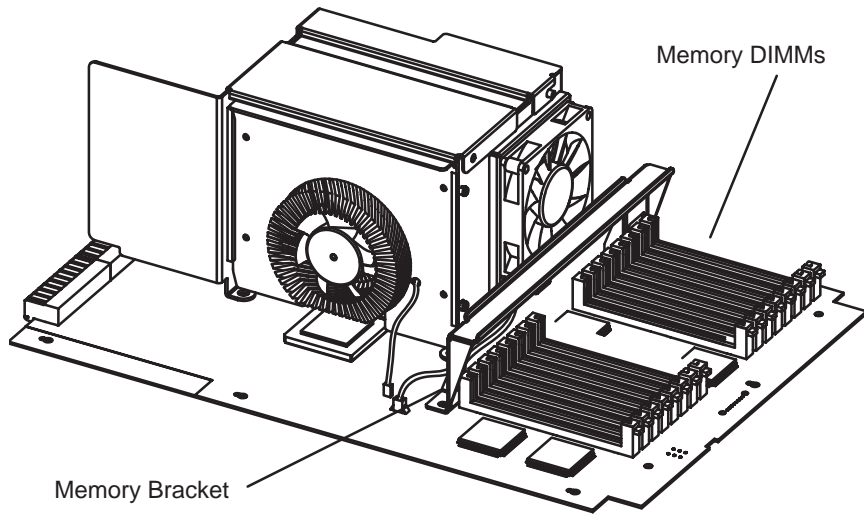

Figure B-22. Memory Retention Bracket and Memory DIMM Location
5. Use Figure B-22 to locate the memory DIMMs on the CPU Assembly.